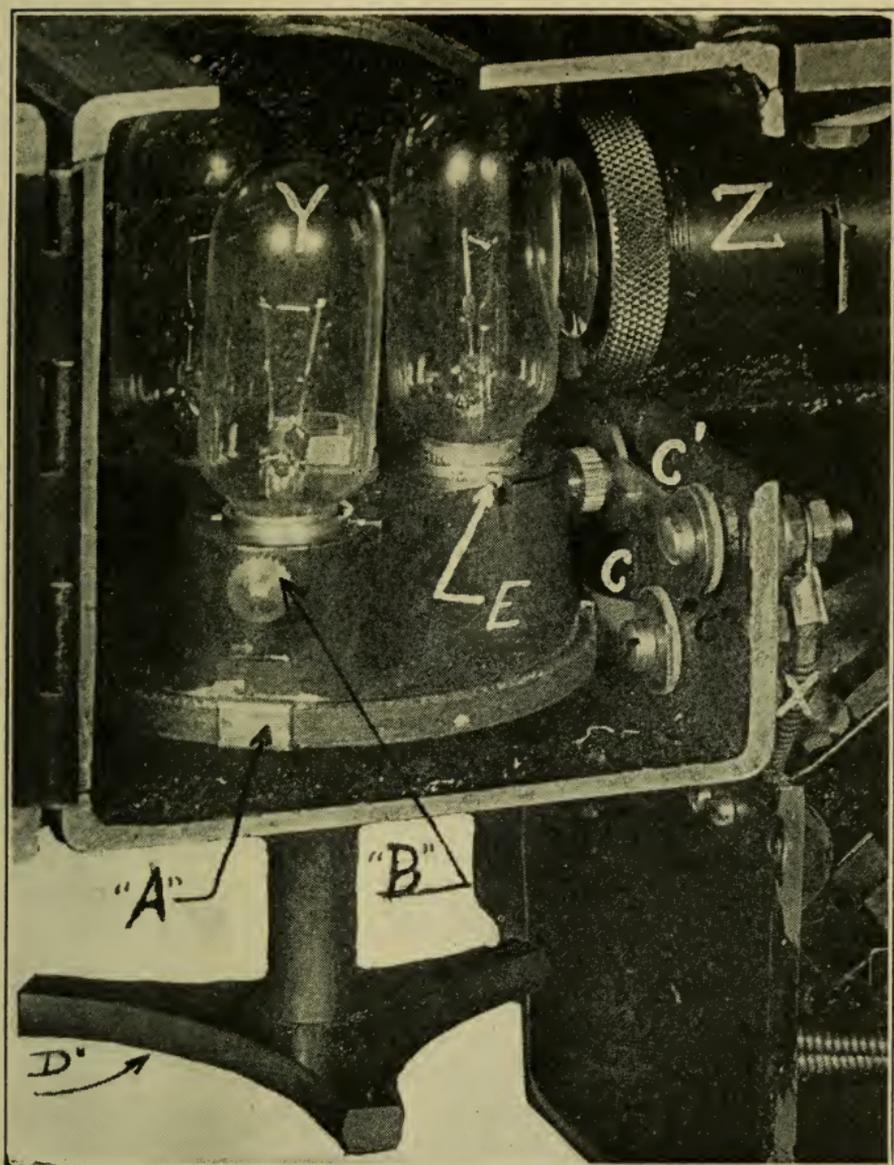

Figure 413.
The exciting lamp is contained in a separate compartment of the said attachment. Its interior is shown photographically in Fig. 413.
In the exciting lamp compartment is a rotating base or table, the action of which is controlled by hand wheel D, Fig. 413. Mounted on the rotating table or base are three lamp sockets, in each of which it is designed that a lamp will be kept mounted, ready for instant use, so that in case an exciting lamp fails during the running of a show, it is only necessary to move hand wheel (D) one-third of a turn to bring another pre-adjusted lamp into use.
Electric contact for the lamp is provided as follows: Examining Fig. 413 you will see a wire, X, at the right. This is one of the wires of the electric circuit supplying current for the exciting lamp, the other wire being hidden from view. Looking closely you will see two bars of copper alloy, C and C', to which the circuit wires are connected through the side of the compartment housing, being of course insulated from the metal thereof. At A
These lamps are so made, and their sockets so placed that when the lamp is in the socket, its filament will, without further attention, be "square" with the slit. In other words, the filament will be exactly at right angles to the optical axis of the slit optical system contained in slit assembly barrel Z, Fig. 413.
This is accomplished in a very simple way. The exact position of the lamp in its socket is determined by a locating pin, E, Fig. 413, except that an up and down adjustment may be found necessary. The socket itself is so located upon the table that all socket slots are in precisely the same circumferential position.
In making the lamp, locating pin E, Fig. 413, is placed in the precise position which will bring the filament in its correct location with relation to the optical axis of the system when the lamp is put into a socket, **except** that it may be too high or too low, in which case it must be raised or lowered, as already set forth.